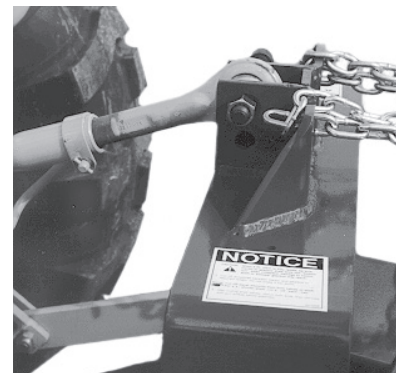

figure 2
5. Connect the tractor toplink arm to the top of the mounting assembly (figure 2). Secure with a pin.